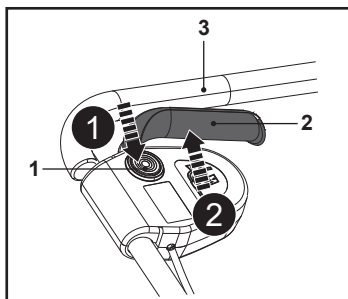

Fig. 13
1. Stand behind the grip handle (3).
2. While holding the safety switch button (1) pressed (Fig. 13, step 1), pull the start levers (2) towards the grip handle (3) and hold it in position (Fig. 13, step 2).
3. After the lawn mower starts, release the safety switch button (1).